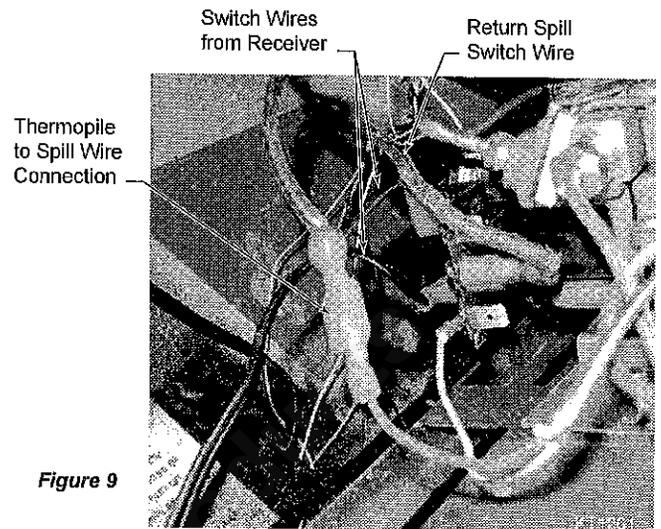

Figure 9
4. LHEC only: Connect the spill switch wires to the tray. Connect the thermopile wire with the male connector previously installed to the spill switch wire with the female connector. Complete the thermopile/spill switch circuit by connecting the other spill switch wire to the available TP or TH/TP terminal on the valve. *Figure 9*